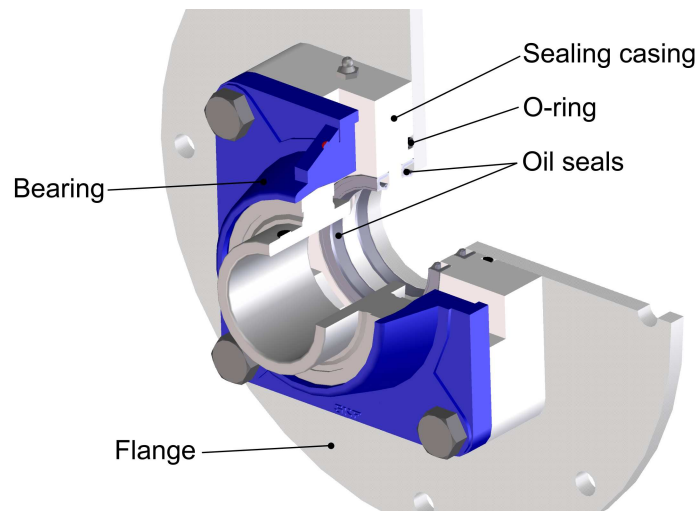

Figure 5.2: Multi seal
4. Place the new oil seals by carefully tapping them into the housing with a hammer. Take care not to place the oil seal crookedly in the housing. Ensure that the oil seals are positioned in the right way. The two oil seals should be placed with the 'open' side towards the product side (see figure 5.2).